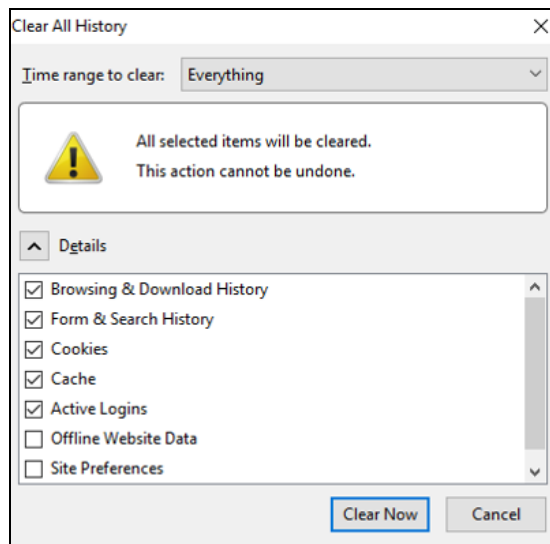

Figure 9: Mozilla FireFox Clear All History
1. Use an Ethernet cable to connect your laptop computer directly to the modem's LAN port, as shown in Figure 9. Do not connect the laptop to the modem through an Ethernet modem or switch.